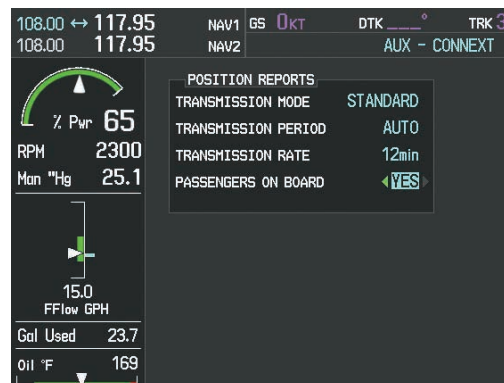

Figure 8-126 Set Transmission Rate
- 9) Turn the small **FMS** Knob left or right to select 'YES' or 'NO', as shown in Figure 8-126.